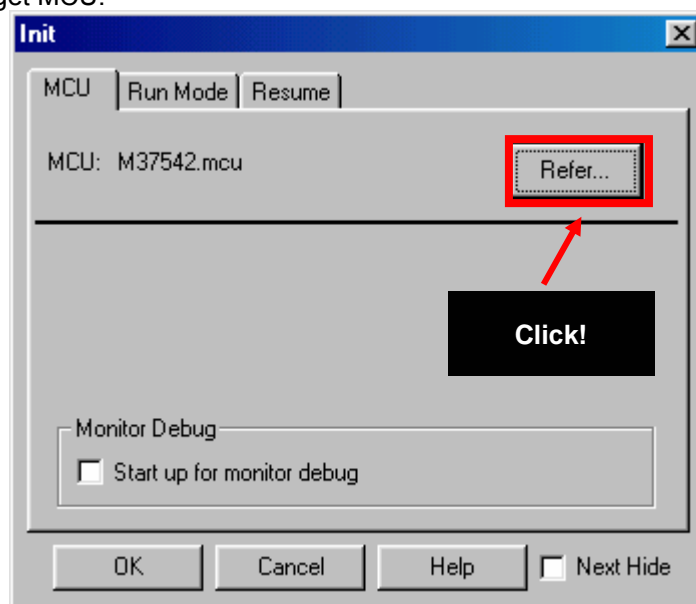

Figure 4-9 INIT Screen 1 of KD38
- 1)Click “Start” - “Program” - “RENESAS-TOOLS” - “KD38 V.x.xx” - “KD38” from the start menu to start the KD38. When the KD38 starts, the INIT screen of the KD38 which is shown in Figure 4-9 will be open. When a window is open, click “Refer” and select the target MCU.